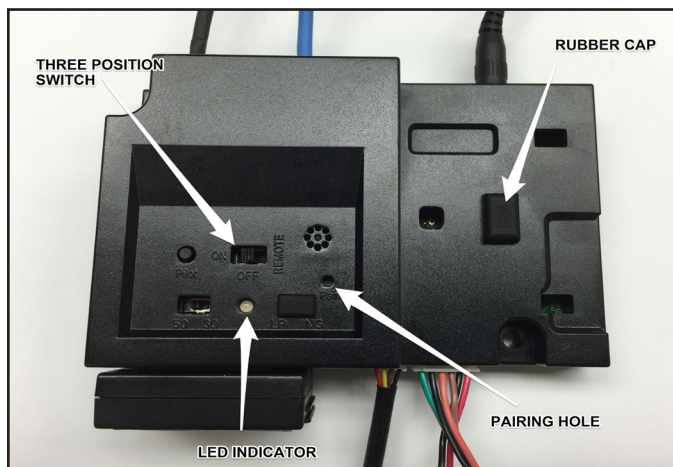

Figure 2 IFT-ECM
4. Remove protective rubber cap from connector on the top of the IFT-ECM. See Figure 2.